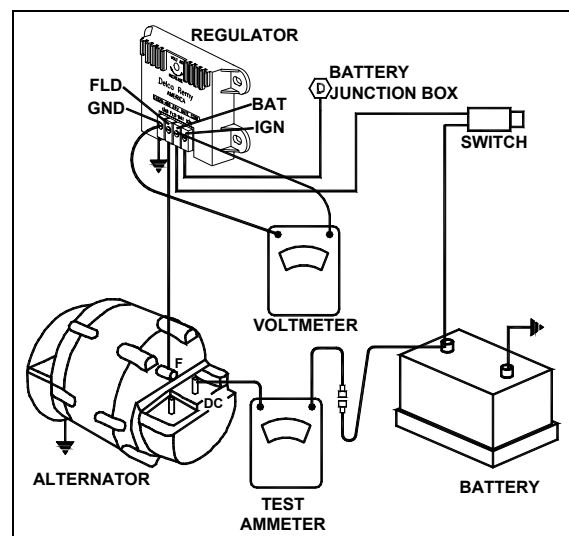

FIGURE 43: REGULATOR VOLTAGE SETTING 06416
1. To check the voltage setting, connect a voltmeter across the "POS" and "NEG" terminals on the regulator, and an ammeter to the "C" terminal on the alternator. Refer to figure 43.